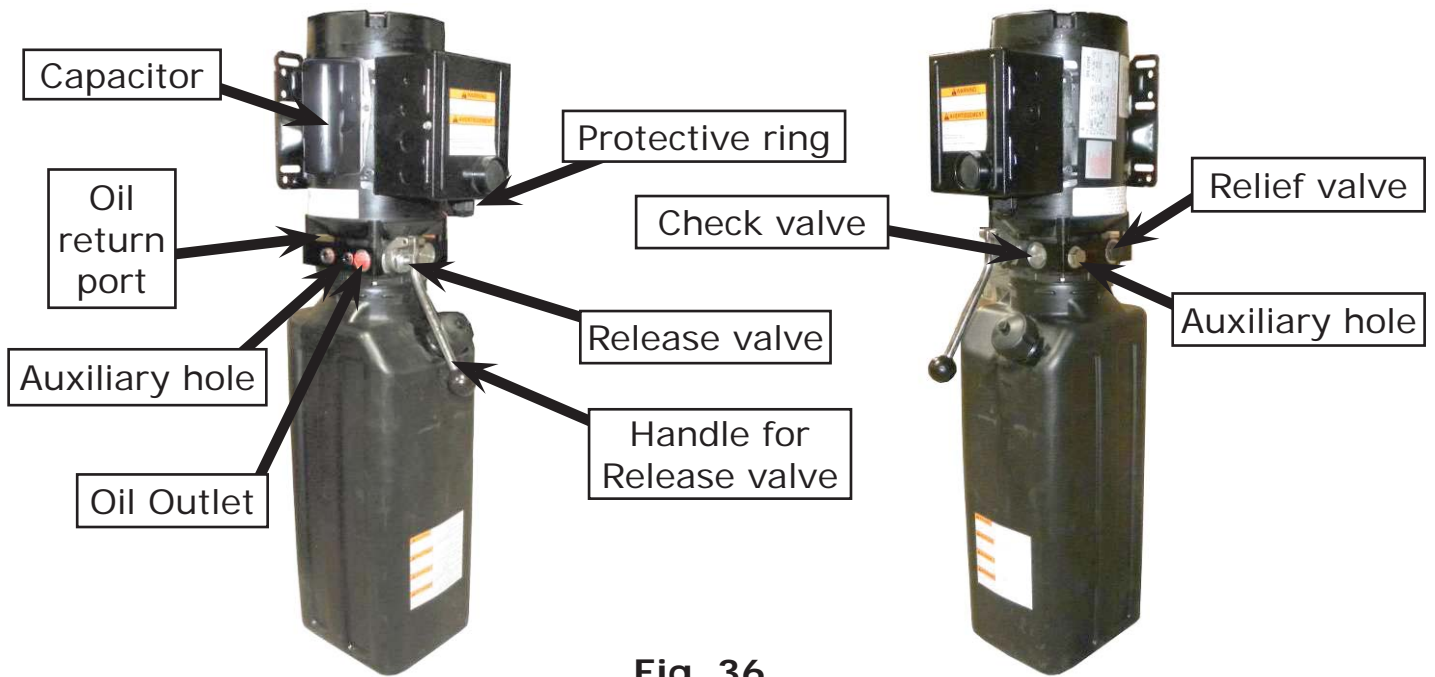

Fig. 36
a. SPX manual power unit, 220V/60HZ, Single Phase (See Fig. 36)